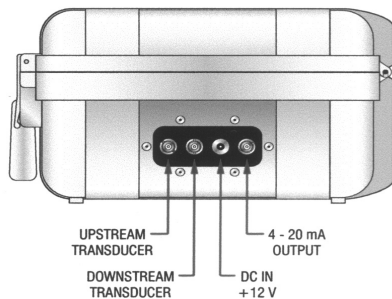

Figure 1.4
2. Connect the appropriate wires to the corresponding connections on the transmitter. The transducer cable has markings of UPSTREAM and DOWNSTREAM to assist in the installation process. The UPSTREAM transducer is the one located closer to the direction from which fluid flow normally comes from (The fluid normally passes the UPSTREAM transducer before passing the DOWNSTREAM transducer.) If the transducer wires are connected backwards, a negative flow indication will be observed on the flow meter display. See **Figure 1.4** or the Wiring Diagram located on the inner door of the transmitter.
The 12 volt DC power converter and 12 volt cigarette-style power cord connect to the socket connection located on the side of the enclosure. See **Figure 1.4**. A fully charged battery will provide up to 24 hours of continuous operation before recharging will be necessary. When the battery level has decreased to a point where recharging is required, the LOW BATTERY indicator will illuminate on the front panel. At that point, the meter will only operate a short time more until it automatically turns itself off—preventing excessive battery discharge that can damage the Gel Cell battery.